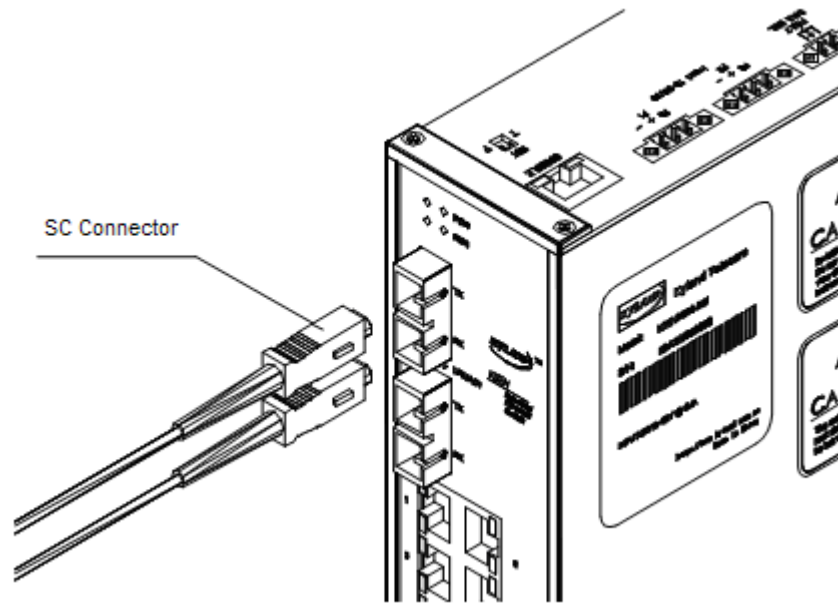

Figure 2-6 Optical Fiber Wiring
3. Connect one side of the optical fiber with an optical port of the switch and connect the other side with an optical port of another unit, as showed in the Figure 2-6.n